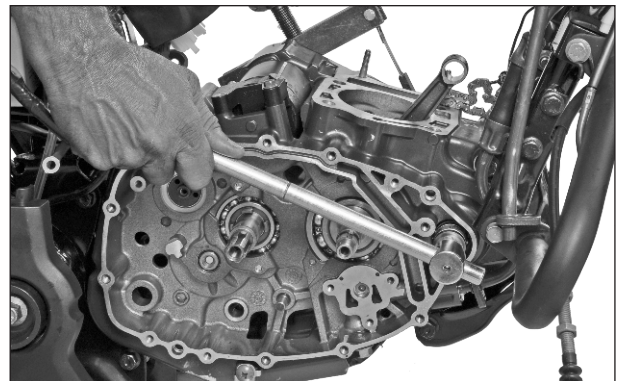

Fig. 3.129
- Using the special tool, hold the rotor assembly as explained earlier and remove the hexagonal flange nut (M12x1.25) from the balancer shaft assembly. (Fig. 3.129)